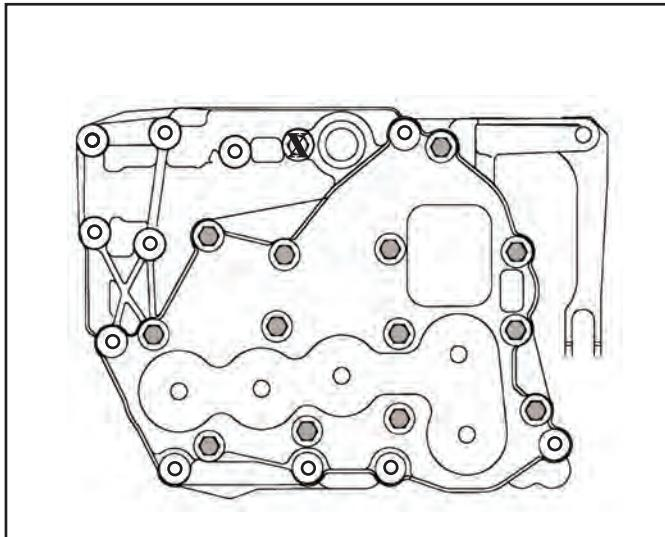

Figure 172
1. Remove the 13 bolts from the valve body highlighted in Figure 172 **Do not** remove the bolt marked X.
5. At this time, remove the remaining bolt marked with a X in Figure 172.